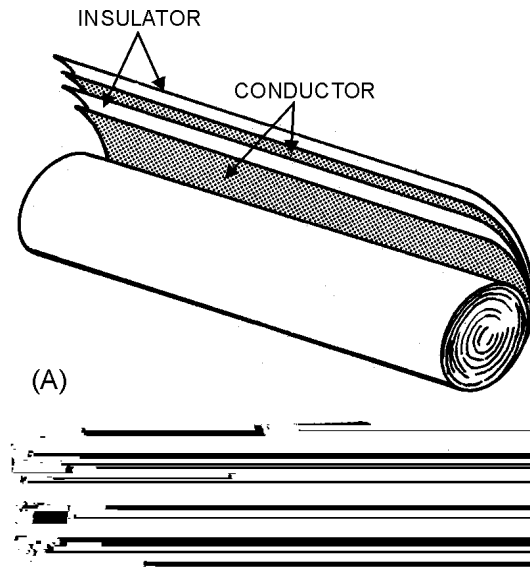

Figure 3-15.—Paper capacitor.
Many different kinds of outer covering are used on paper capacitors, the simplest being a tubular cardboard covering. Some types of paper capacitors are encased in very hard plastic. These types are very rugged and can be used over a much wider temperature range than can the tubular cardboard type. Figure 3-15(A) shows the construction of a tubular paper capacitor; part 3-15(B) shows a completed cardboard-encased capacitor.